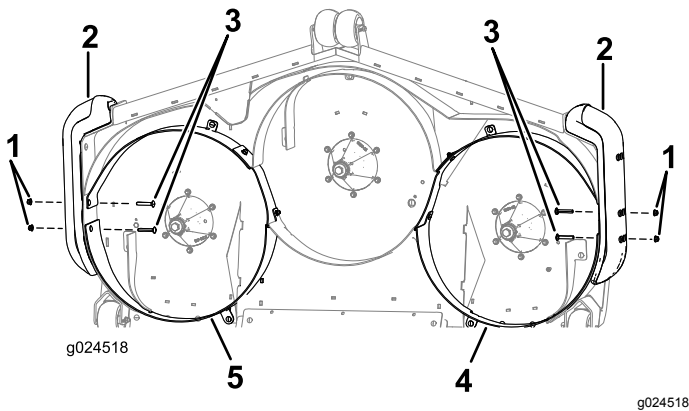

Figure 5
Note: To help align the baffles, loosely insert the carriage bolts (3/8 x 2-1/2 inches) and flange nuts (3/8 inch) through the side of the baffles and bumper (Figure 5).
1. Insert 2 carriage bolts (3/8 x 2-1/2 inches) on each side through the right and left baffle and bumpers (Figure 5).
2. Secure the 2 carriage bolts using 2 flange nuts (3/8 inch) on each side (Figure 5).